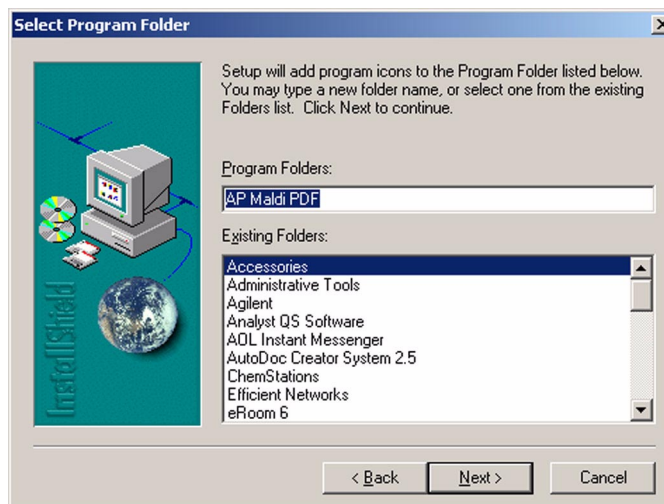

Figure 50 Select program folder for Target software
- 5 Click Next in the next window to create the program file folder. See Figure 50.